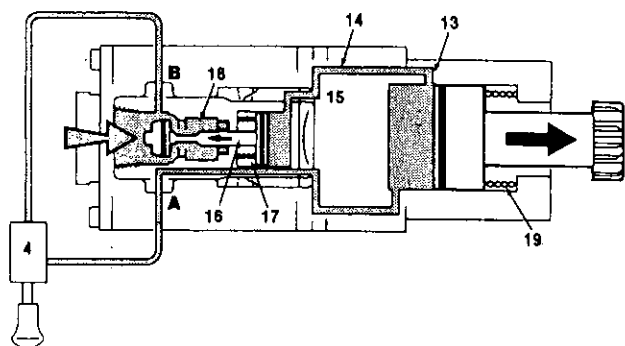

Figure 2.2
When the piston is moved to its full rearward position (as shown in Figure 2.2), it uncovers a second vertical passage (13) in the drive housing separate from the inlet passage. This action allows air to flow from the piston chamber, through a longitudinal passage in the gear case (14), to a second annular groove (15). From this groove, the air enters a short passage in the motor casing and fills a space behind the sequencing valve piston (16), forcing the piston to move forward against spring pressure (17) and unseating the sequencing valve air-foil. Unseating of the sequencing valve air-foil allows full system air pressure to enter the inlet plenum (18) and to flow at high velocity through directional inlet slots in the housing sleeve. The airflow applies pressure to the rotor blades, causing the rotor to turn. As the rotor turns, the air trapped between the blades expands, creating an additional force which is applied to the rotor. At the bottom of the air motor casing, an outlet is provided to discharge the air from the exhaust plenum. Rotation of the rotor shaft is transferred through the reduction drive gear train to the facet drive pinion which is engaged with the engine ring gear.